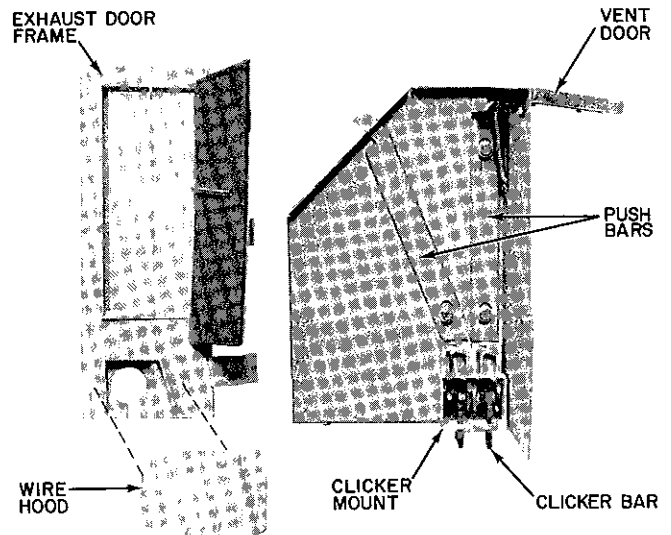

Fig. 31 — Vent Door/Wire Hood
- c Remove wire hood by removing 2 screws See Fig 31
35 **Vent Door** — See location of Vent Door in Fig 31
- c Cut interconnecting tubing and remove 2 screws securing condenser coil. Remove condenser orifice mounting screws (4)
- 44 **Vent and Exhaust Linkage** — See Vent and Exhaust Linkage in Fig 31
- f To remove push bars, remove screws and disassemble from discharge deck. See Fig 31